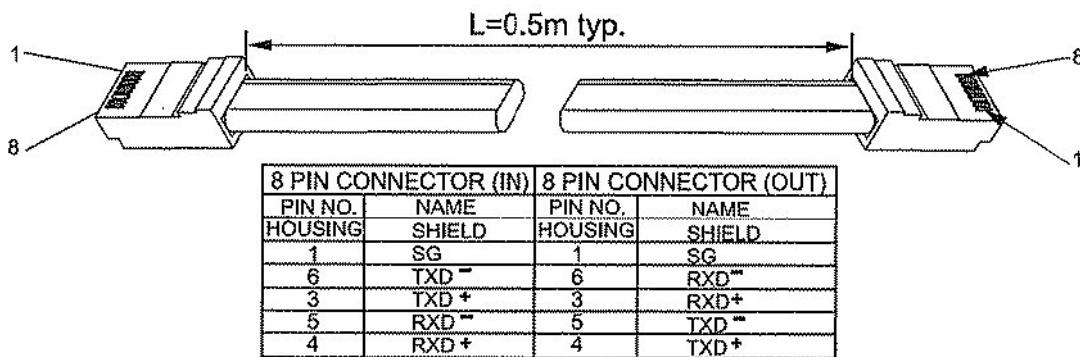

Figure 7-6: Serial “Link” Cable with RJ-45 Shielded Connectors (P/N:GENR45)
- Using the “**Linking**” cable, supplied with each unit (refer to Figure 7-6), connect each unit **J3-OUT** connector to the next unit **J3-IN** connector.